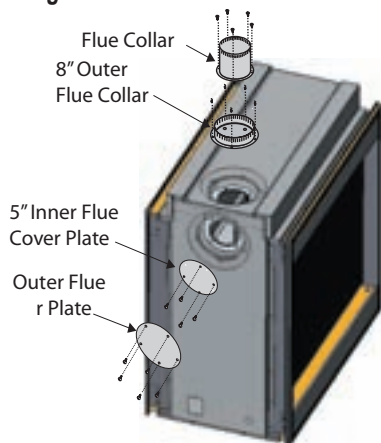

Figure 7. Flue cover and collar removal, *Top Vented* fireplace.
1. Remove the Rear flue cover and gasket (5" and 8") on the flue outlet, as shown in **Figure 7**.
2. Next, Remove the Top flue collar's (5" and 8") on the flue outlet, as shown in **Figure 7**.